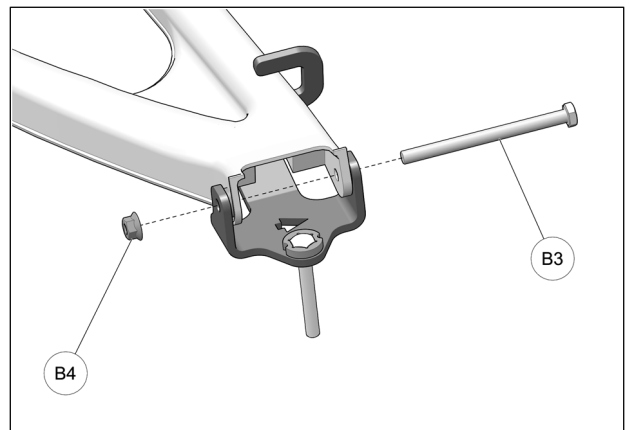

Fig. 9
9. Insert the new M10x130mm bolt (B3) through anchor bracket, shims, suspension arm and wheel knuckle. Secure assembly with the provided M10 nut (B4). Torque nut to 50 N•m [37 lb•ft]. See Fig. 9